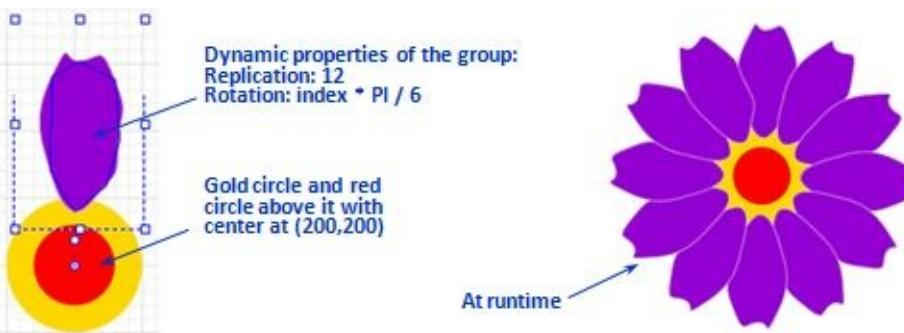

Figure 12.45 Replicating the group with the petal drawing and the resulting runtime picture
3. Draw two lines to divide the square into four equal parts as shown in Figure 12.45.